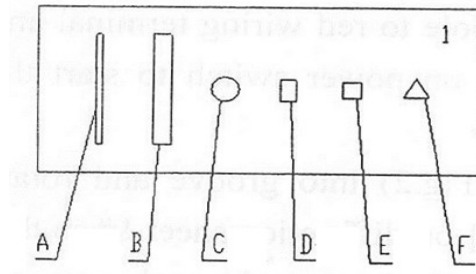
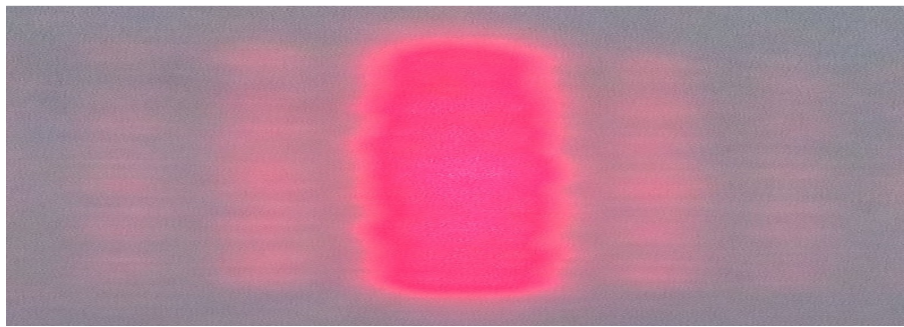

Figure 2: Elements on Sheet #1
Figure 3. Diffraction of Slit 1: width 0.1 mm.
- b) Insert Sheet #1 (element dimensions are shown in Figure 2) into the holding slot on the instrument body and rotate the adjustment hand wheel to bring Slit 1 into the optical path. Diffraction strips of single slit 1 can be observed on the receiving screen as shown in Figure 3. (Please set the distance of the screen from the instrument larger than 0.5 m, or use a wall or white board at remote as the receiving screen).